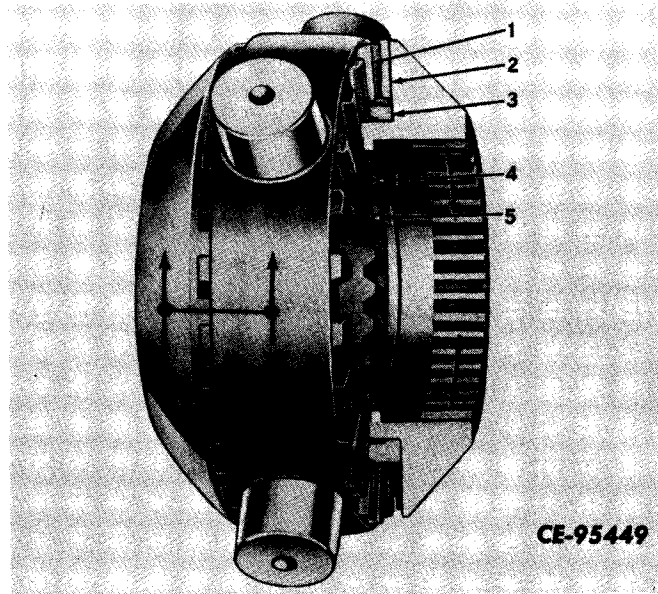

Figure 6-61
The driven clutch cams (4, Fig. 6-61) raise on the center cam (5) and disengage the clutch teeth (2) from the spider (1). The holdout cam (3) rotates slightly to hold the driven clutch disengaged, allowing the outside wheel to overrun the spider.